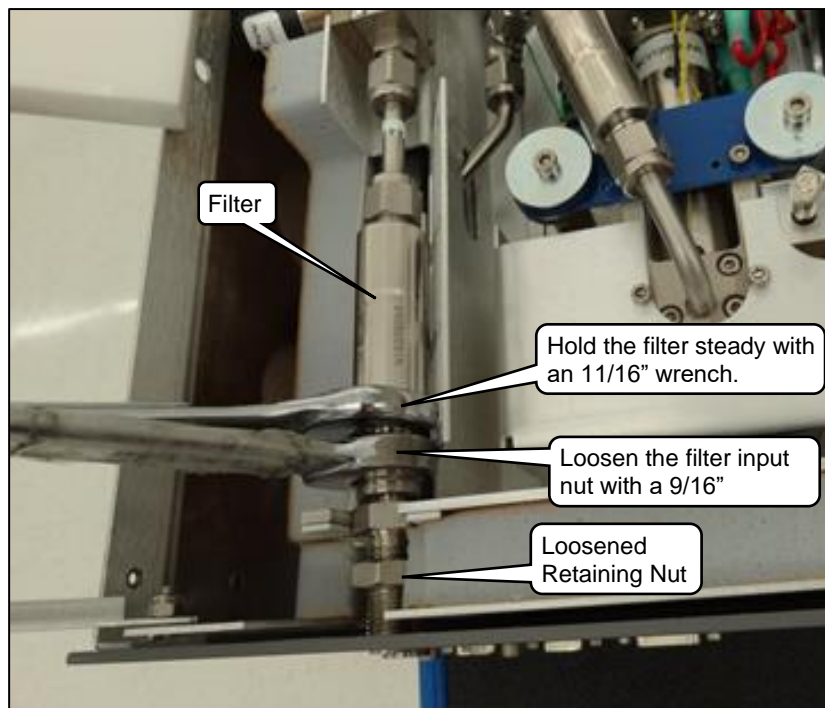
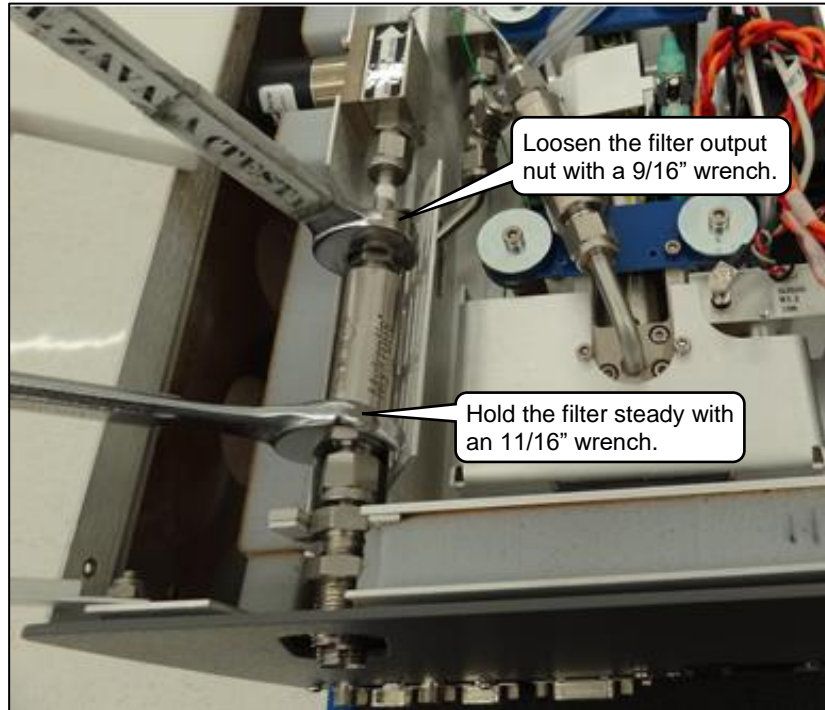

Figure 46: Loosening Filter Input Nut
Figure 47: Loosening Filter Output Nut
6. Using a 9/16" and 11/16" wrenches, loosen input and output nuts that connect the filter to the analyzer (See Figure 46 and Figure 47).